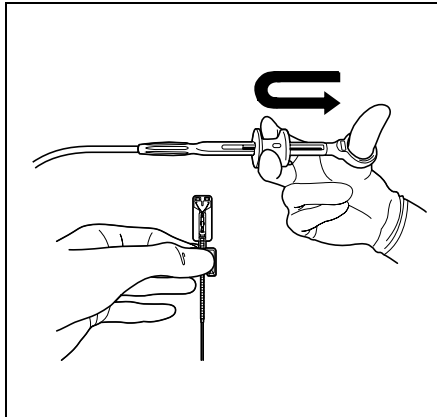

Figure 3.7
5. Push the slider forward (distally) until it clicks, then pull it toward you (proximally) until it stops (see Figure 3.7). The clip is now attached inside the coil sheath.